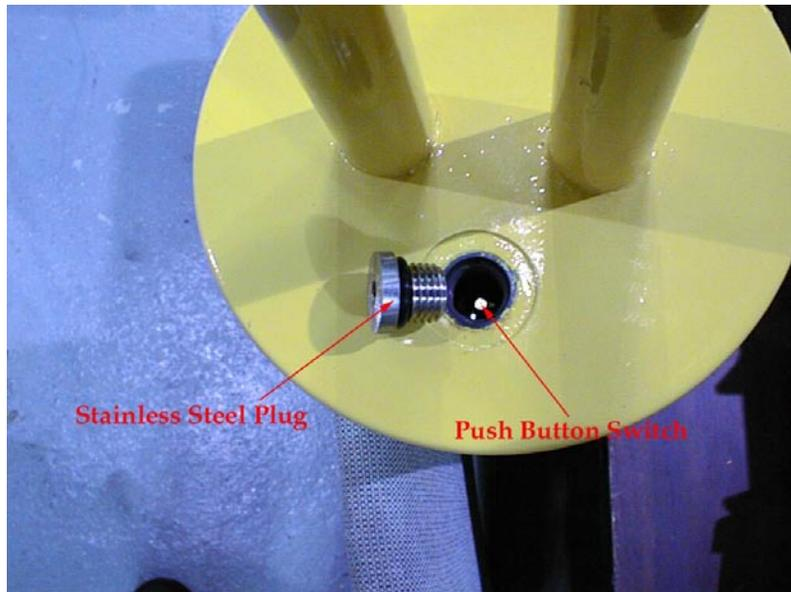
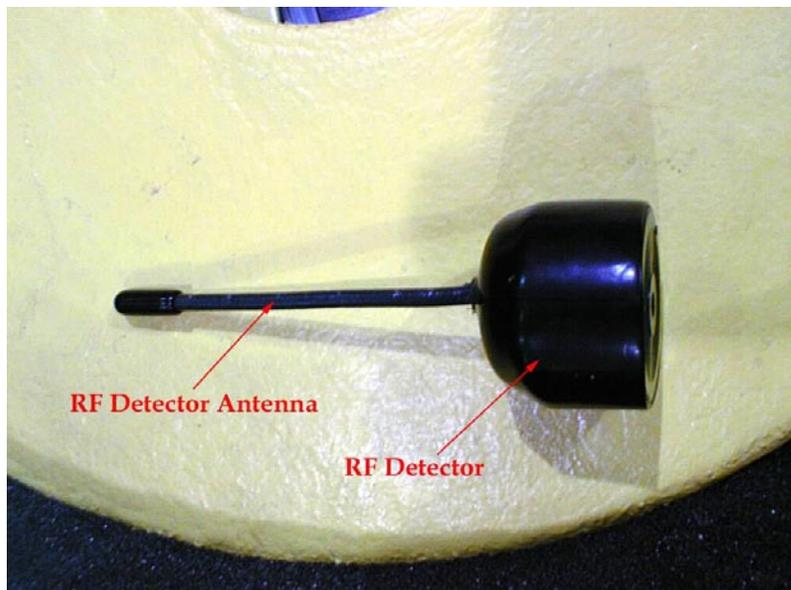

Figure 23
Figure 24
2. Just before deployment, remove the Stainless Steel plug (Fig. 23) at the top of the buoy and push the button underneath once, using a blunt pen or pencil. If using the RF detector (Fig. 24), hold the detector antenna parallel to buoy antenna and a single tone should be heard after 5-10 seconds followed by a chirp after about 3 seconds. The base station should also receive data verifying that the buoy is on. This activates the buoy. Reinstall stainless steel plug.